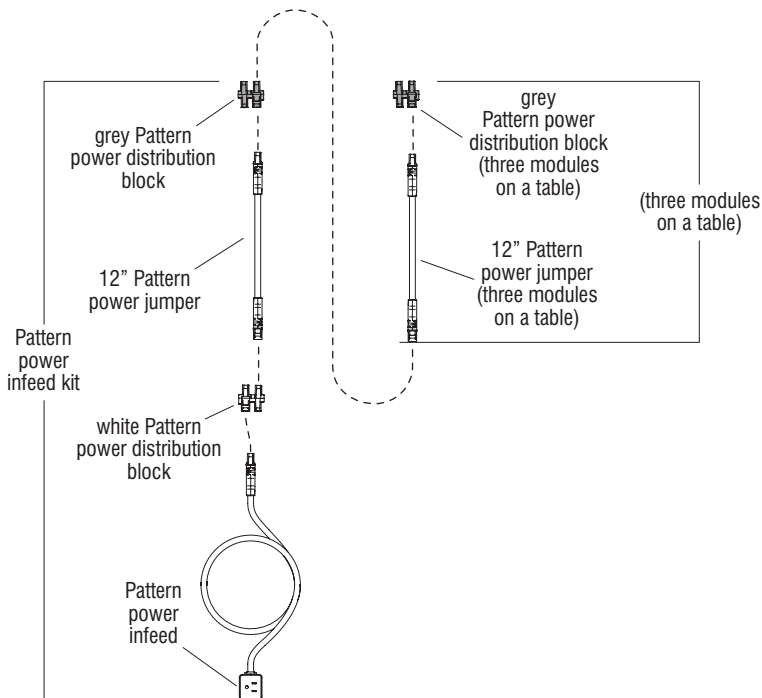

Figure 1 - (top view)
1. For a run of tables, start Pattern electrical system assembly with the table that will contain the Pattern power infeed. Locate one Pattern power infeed, one white power distribution block, one grey power distribution block and one 12” Pattern power jumper. Plug the power infeed into the white power distribution block first, as illustrated (Figure 1 & Detail A).
2. Plug the female end of the 12” power jumper into either male port opposite to the power infeed connection on the white distribution block (Figure 1 & Detail A).
3. Plug the previously installed (step 2) 12” Pattern power jumper end into a grey power distribution block as illustrated (Figure 1 & Detail B).
4. If the designated power infeed table contains three power modules, an additional 12” Pattern power jumper and grey Pattern power distribution block on the end will be required after the first grey distribution block (Figure 1).